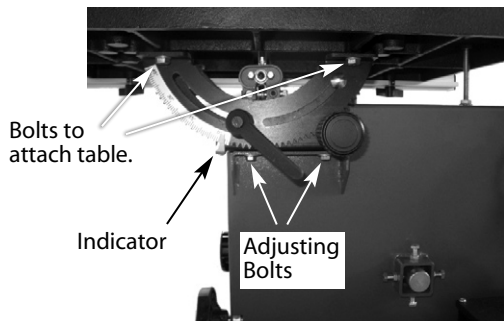

Figure 1 - Attaching and centering table.
Refer to Figures 1 through 9 and Figure 18.
Place the table on the trunnion, taking care when passing the saw blade through the slot of the table. (See Figure 1).
1. Loosen the hex bolts mounting the trunnion to the saw frame (See Figure 1).
3. Lock the table into position and check that the indicator reads zero degree on the side of lower table trunnion. Loosen the screw securing the indicator and reset if necessary to give zero degree reading (see Figure 1).